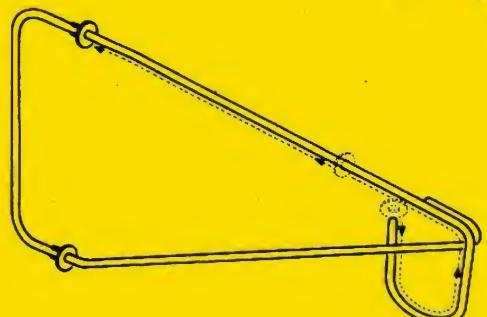

Fig. 2
Now take the two brackets (37) and put two washers (35) on each of them and push the washer until it reaches the enlarged part of the bracket. (fig. 2). Lay the correct front card against the front panel and put the overlay strip over this, so that the holes match those in the front card. Fold the overlay strip against the back of the front panel (fig. 3). Now place the brackets with washers in the four